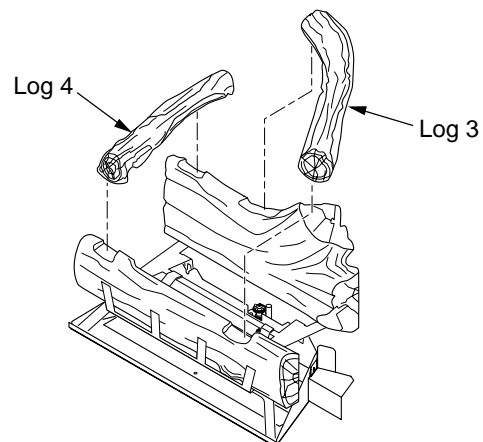

Figure 24 - Installing Logs 3 and 4
3. Place log 3 into notches on left side of logs 1 and 2 (see Figure 24).
4. Place log 4 into notches on right side of logs 1 and 2 (see Figure 24).